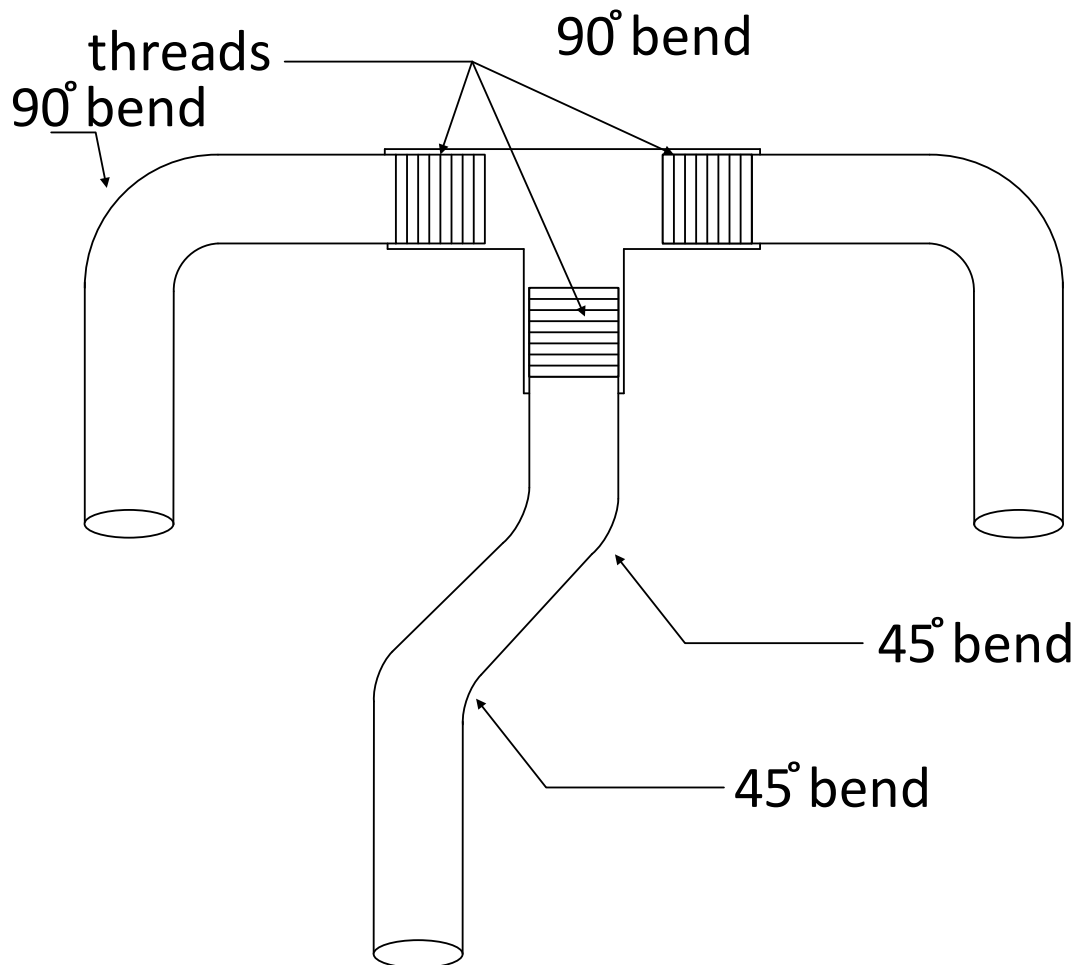

Figure 1
- ii. Make 90-degree and 45-degree bends as illustrated in Figure 1.
- iii. Carry out threading as indicated in Figure 1.
- iv. Fit a tee joint as shown in Figure 1.